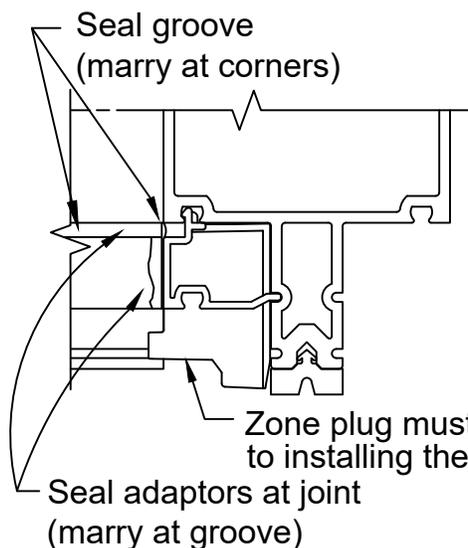

Figure 27
- A.3 Install horizontal adaptors maintaining an equal gap at each end. Note: For horizontal adaptors that are adjacent to SSG mullions, a small notch must be made to the tongue engagement hook in order to clear the SSG mullion bridge. SEE FIGURE 26. Once all adaptors have been installed in the opening, seal all joints between the vertical and horizontal adaptors. Run a bead of sealant in the groove formed between the adaptor and mullion. This seal must be continuous around opening and must marry with the seal at the horizontal to vertical adaptor joints. SEE FIGURE 27.